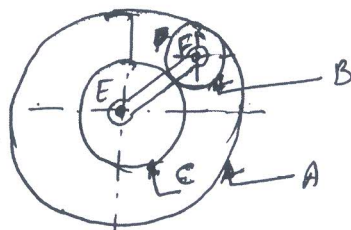

Fig.Q4
- An epicyclic gear train consists of three gears A, B and C as shown in Fig.Q4. The gear 'A' has 72 internal teeth and gear 'C' has 32 external teeth. The gear 'B' meshes with both A and C and is carried on an arm EF which rotates about the center of 'A' at 18 rpm. If the gear A is fixed, determine the speed of gears B and C.